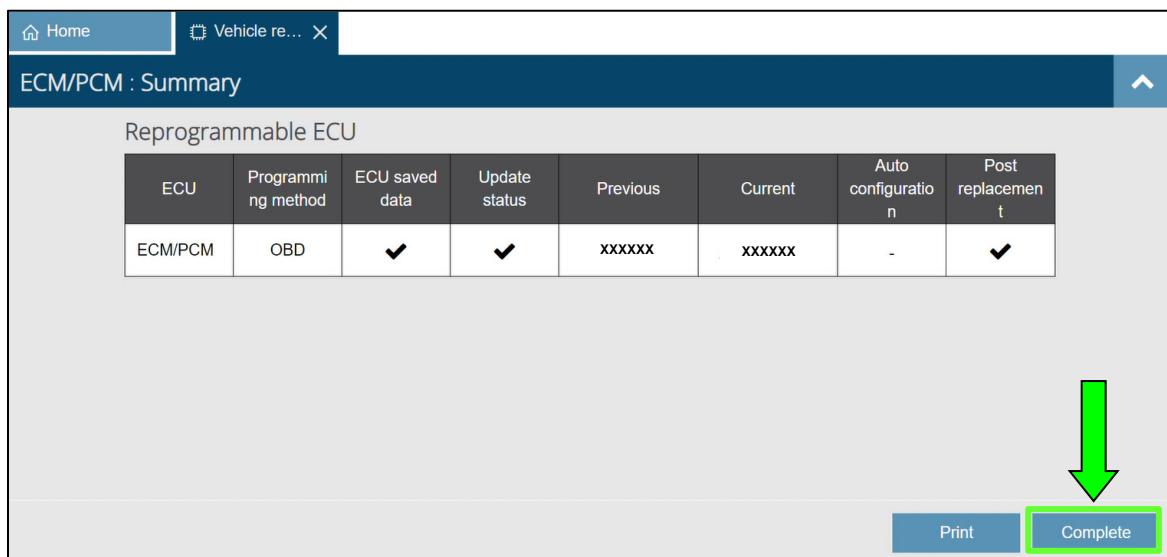

Figure 33
36. Print a copy of Figure 33, and then attach it to the repair order.